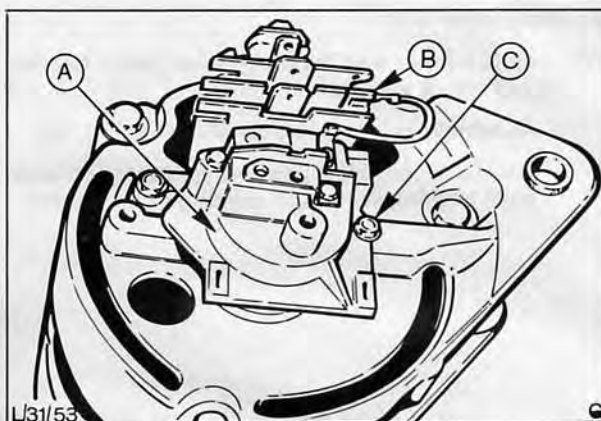

Fig. 56. Installing the brush box
27. Install brush box, Fig. 56.